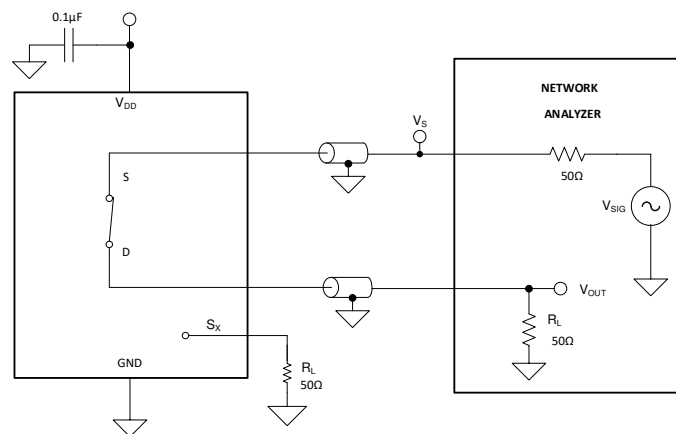

Figure 8-10. Bandwidth Measurement Setup
Bandwidth is defined as the range of frequencies that are attenuated by less than 3 dB when the input is applied to the source pin (Sx) of an on-channel, and the output is measured at the drain pin (D) of the device. Figure 8-10 shows the setup used to measure bandwidth.